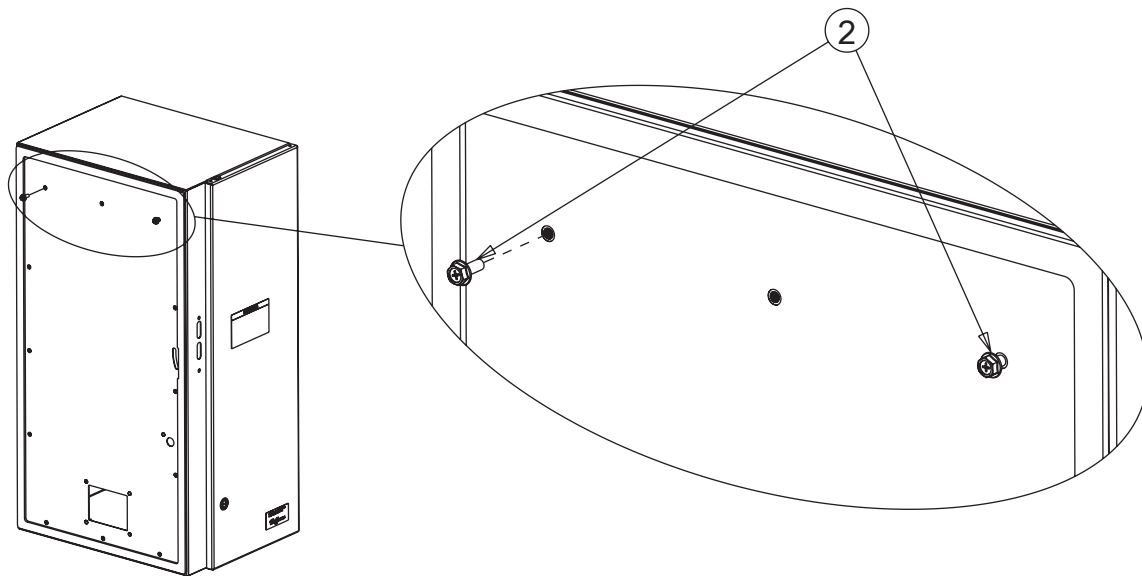

Figure 1A
3. Referring to Figure 1A, thread two M6x16mm bolts (Item 2) from the outside of the SEQUESTR enclosure halfway into the two outer holes of the upper row. If necessary, remove the silicone plugs from the mounting holes.